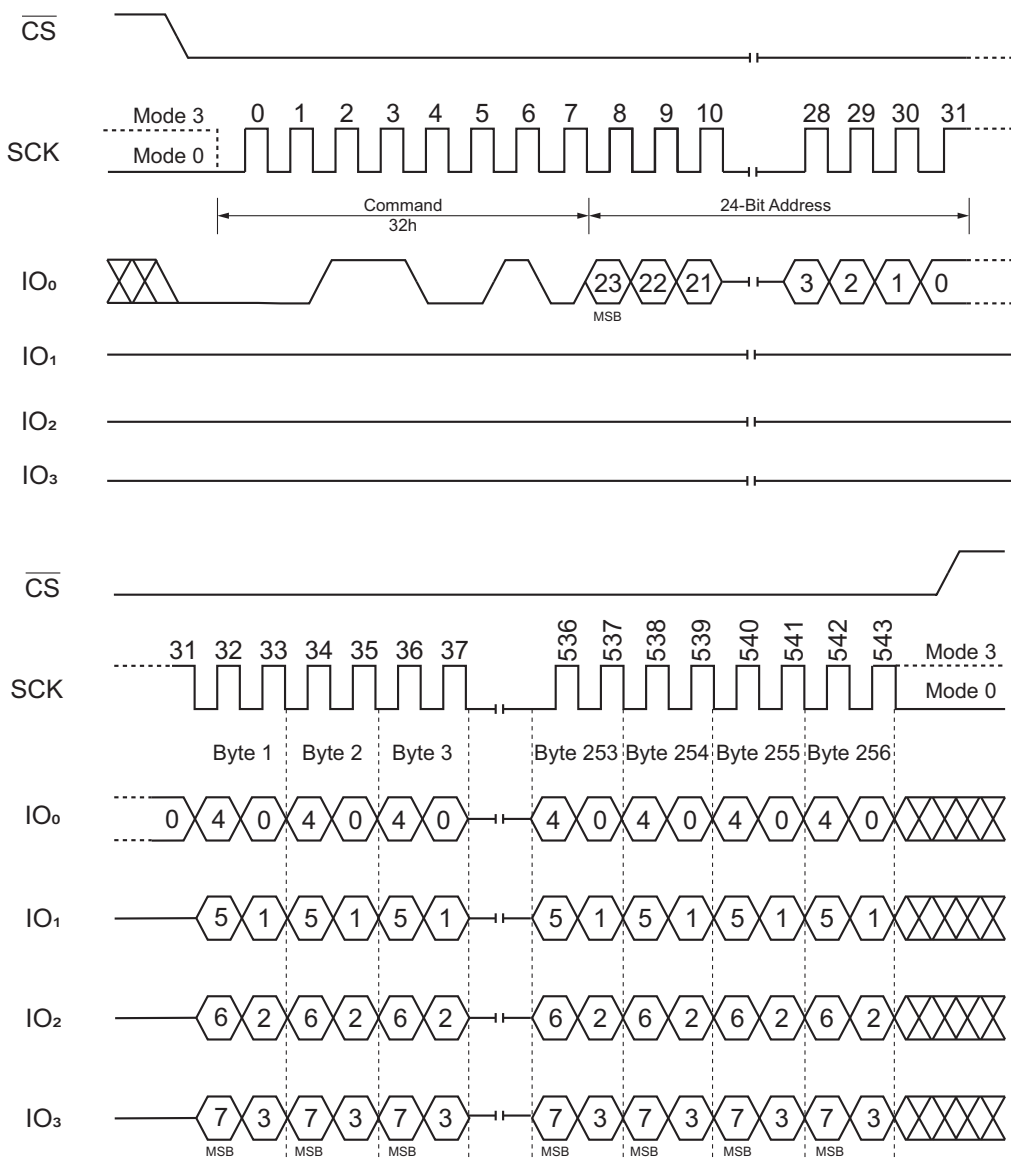

Figure 30. Quad Input Page Program Command
To use Quad Page Program, the Quad Enable (QE) bit in Status Register-2 must be set to 1. A Write Enable command must be executed before the device can accept the Quad Page Program command (Status Register-1, WEL=1). The command is initiated by driving the \overline{CS} pin low, then shifting the opcode 32h, followed by a 24-bit address (A23-A0) and at least one data byte, into the IO pins. The \overline{CS} pin must be held low for the entire length of the command while data is being sent to the device. All other functions of Quad Page Program are identical to standard Page Program. (See Figure 30.)